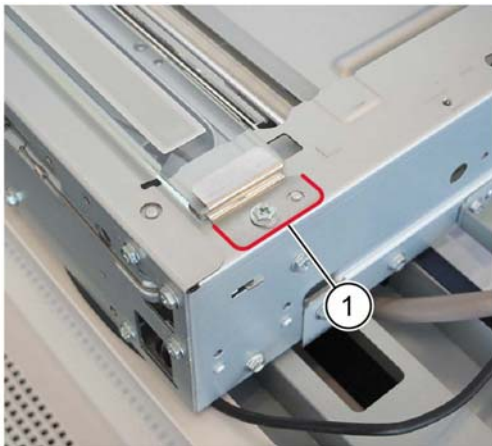

Figure 1 Front glass support
5. Take note of the installation position of the front glass support (1), Figure 1.